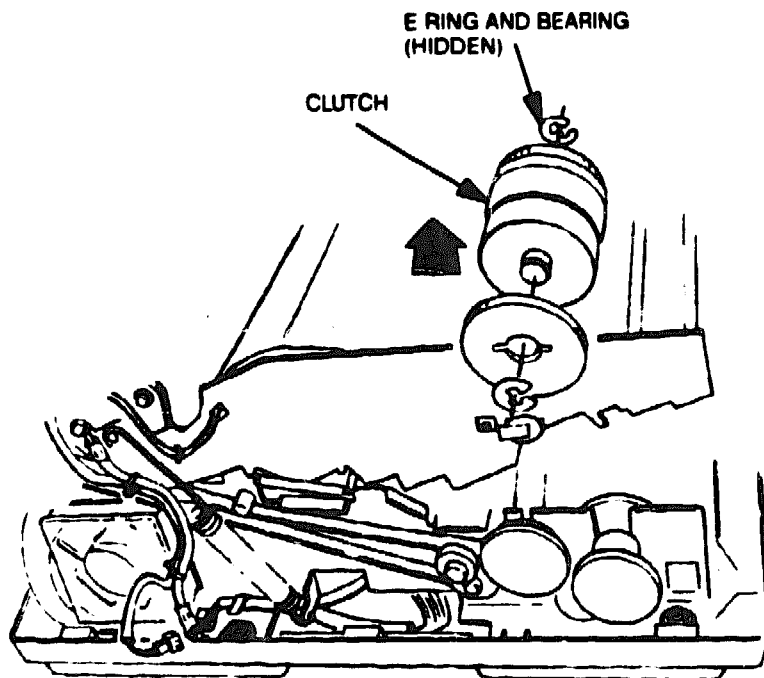

Figure 6-95 Electromechanical Clutch Assembly Removal
7. Lift the clutch assembly away from the support frame on the upper unit (see Figure 6-95) and slide the bearing off the right end of the clutch shaft.